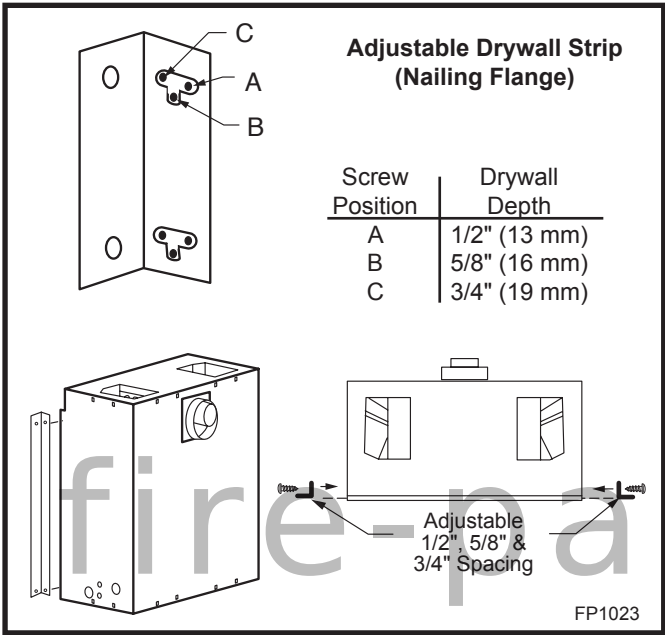

Fig. 4 Adjustable drywall strip (nailing flange).
- 4. Attach fireplace to frame using adjustable frame drywall strips (located behind access door for shipping). Preset depth to suit facing material (adjustable to 1/2", 5/8" or 3/4" depths). (Fig. 4)
- 5. Screw through slotted holes in drywall strip and then screw into pre-drilled holes on fireplace side. Measure from face of fireplace to face of drywall strip to determine final depth. (Fig. 4)